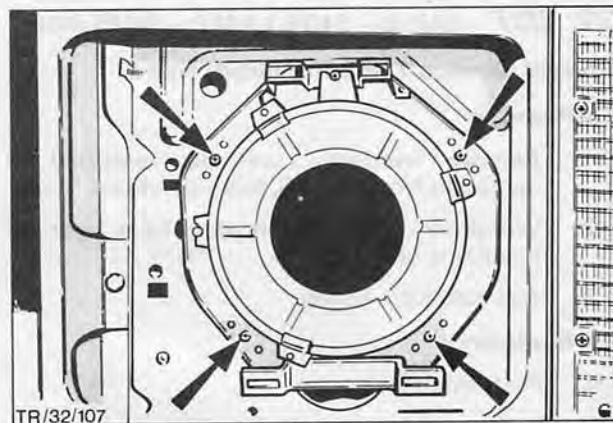

Fig. 7. Housing securing screws
1. Remove four screws Fig. 7 securing headlamp housing to front body panel.